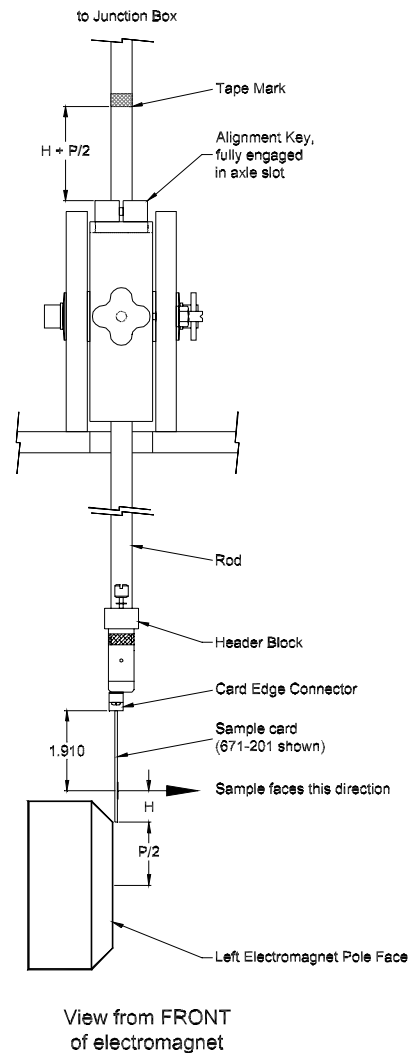

Figure 4-4. Setting Sample Vertical location in the 75013 SCSM.
9. Lower sample until the bottom of the sample card aligns with the top of the magnet pole face as shown in Figure 4-4. Use the clamping knob to secure the sample rod in position.
10. Lower alignment key into place. The tongue on the alignment key must be fully inserted in the slot. Measure up from its top surface a distance equal to the height of the sample center above the bottom of the sample card (H) plus one half the pole face diameter ($P/2$). Use the numbers given in Table 4-3 for common geometries. Mark the position on the rod.